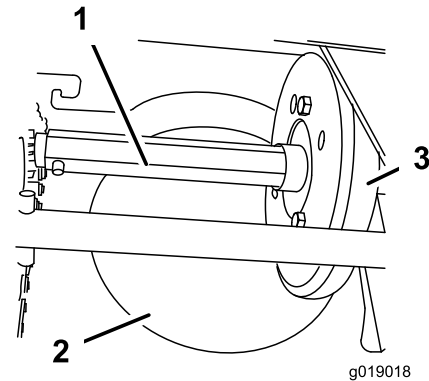

Figure 38
Lightly lubricate the hex shaft yearly with automotive engine oil (Figure 38).
**Important:** Do not get oil on the rubber wheel or the steel friction pulley because the traction drive will slip (Figure 38).